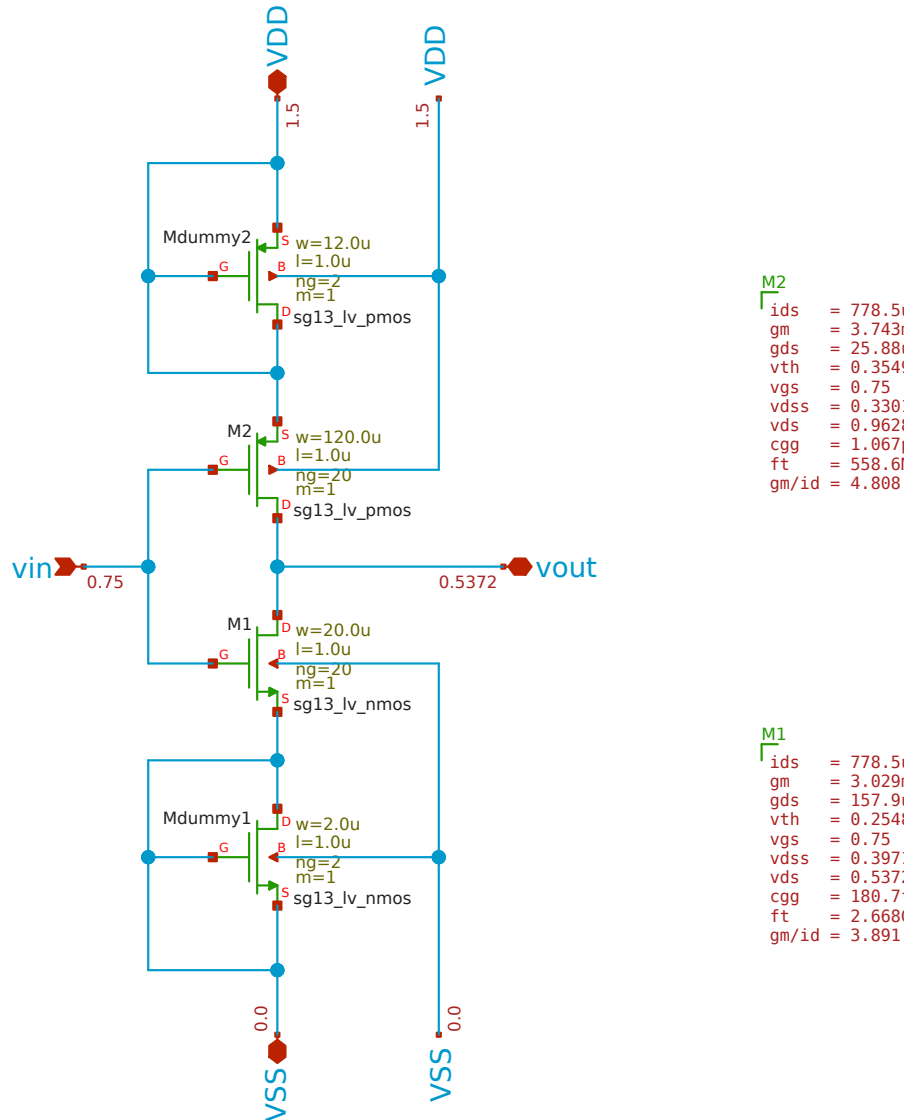

Figure 4: The finished `inverter` schematic in Xschem, with dummy transistors and operating-point annotations.
We now draw the schematic shown in Figure 4 step by step. The reference is inverter.sch.
6. **Annotate (optional).** Place `annotate_fet_params.sym` next to M_1 and M_2 and set `ref=M1` and `ref=M2`. After a simulation, these display the operating-point parameters of the devices directly in the schematic (as visible in Figure 4).